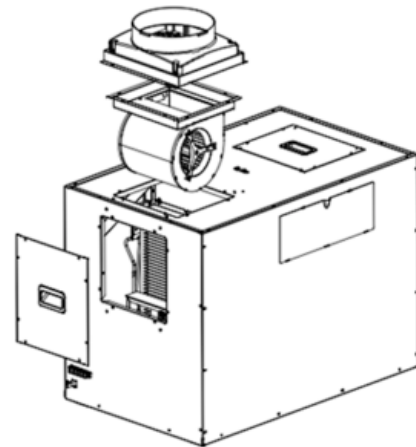

Figure 12
- Feed the wiring harnesses through the opening in the top of the main housing and reconnect them to the main harness. Insert the fan assembly into the opening oriented as shown in Figure 12. Reinstall the eight Phillips head screws to retain the fan assembly.